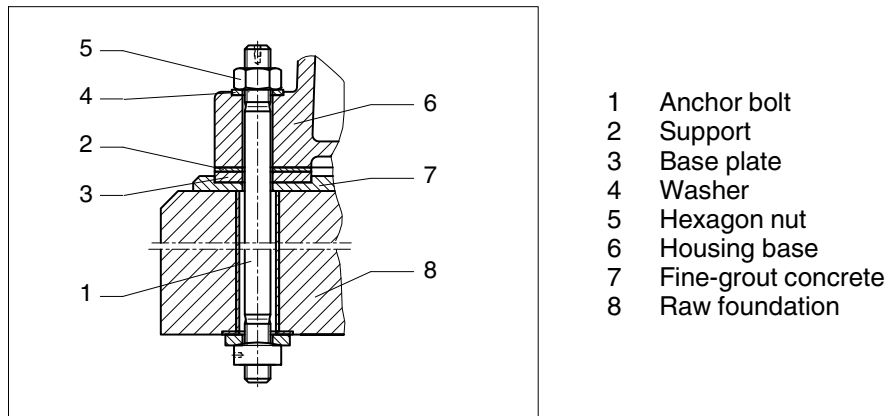

Fig. 45: Anchor bolt
- Align gear unit with supports (see figure 45).